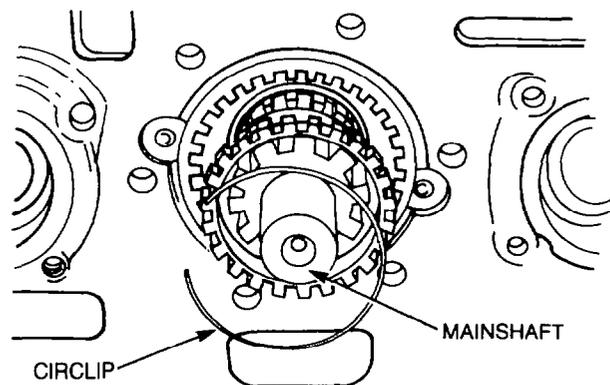

Figure 166 — Removing Snap-rings and Thrust Washers
- t. Remove the circlip and the internally splined thrust washer from the rear of the mainshaft, then remove the gear bore snap-ring, both the internally and externally splined thrust washers and the remaining gear bore snap-ring (see Fig. 166).